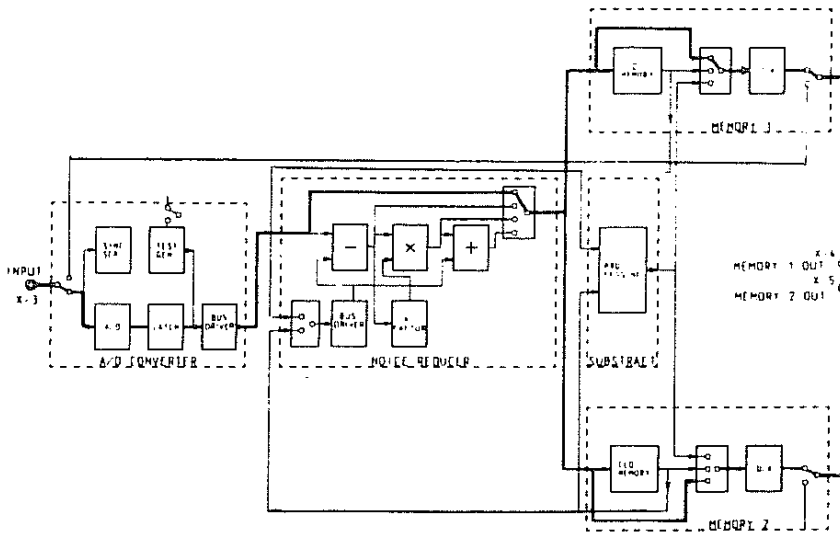

Figure 4.2 : Digital bypass.
(3) Digital bypass (fig. 4.2).